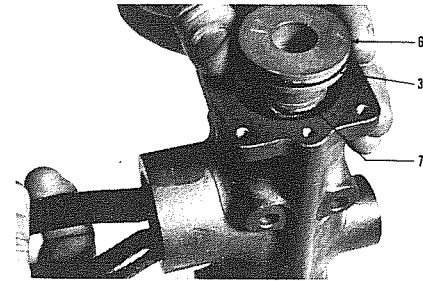

Figure 7-5, Installing air shuttle piston. Note piston being screwed into connecting rod while latter is gripped with pliers to prevent rotation.
the body (16) in vise, pressure end up. Coat o-rings (3 & 7) with Molykote® and assemble on piston (6). Insert pliers through body port to hold connecting rod to prevent rotation. See Figure 7-5. Insert piston (6) into the body and screw onto end of connecting rod (8). With shuttle end pressed against the drill shank, screw the piston on rod until the piston end is flush with the pres-